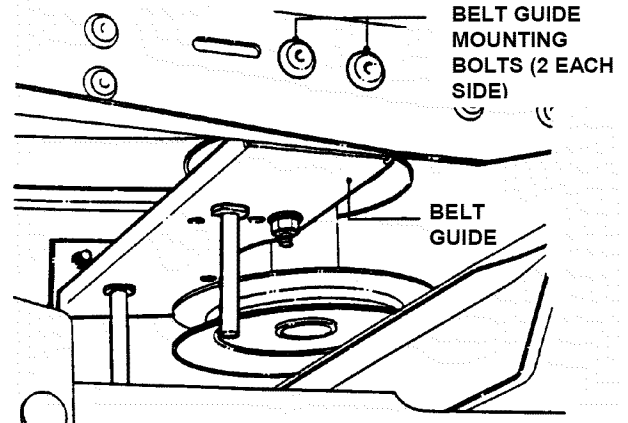

FIGURE 4.31
1. Remove two belt guide mounting bolts from each side of tractor frame. See Figure 4.31.